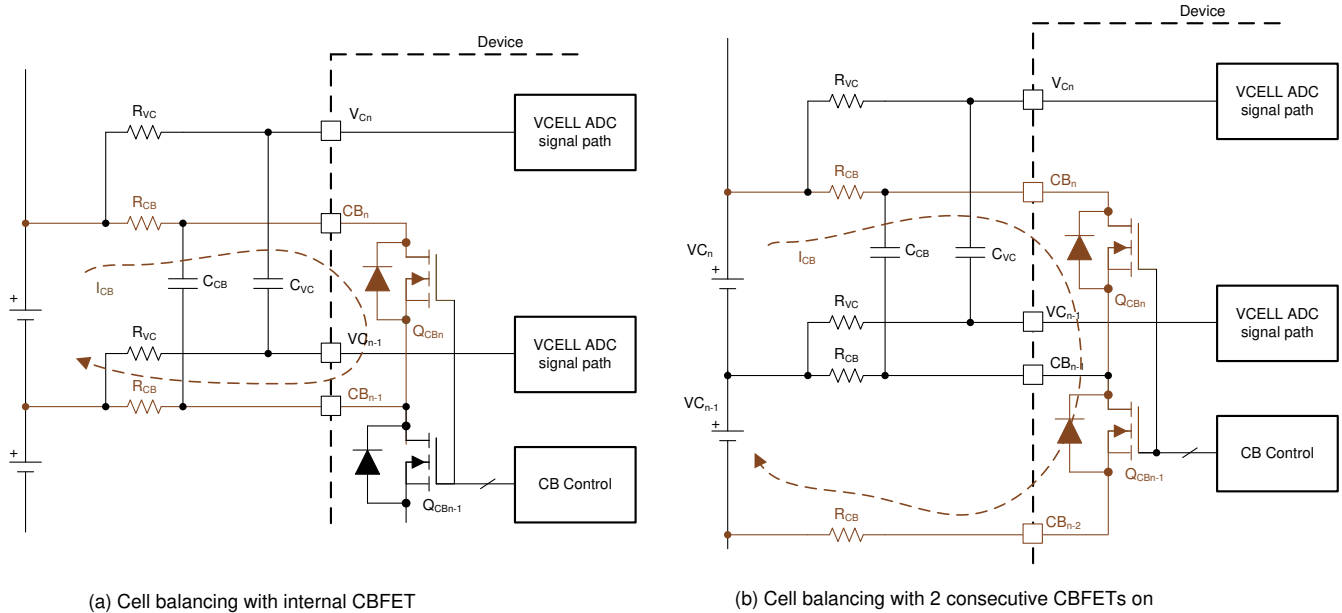

Figure 8-14. Internal Cell Balancing and the Flow of Balancing Current
- Balancing with no consecutive CBFET on (Figure 8-14 (a)): $I_{CB} = V_{Cell} / ((2 \times R_{CB}) + R_{dson_{QCB}})$
- Balancing with two consecutive CBFETs on (Figure 8-14 (b)): $I_{CB} = (\text{Sum of two } V_{CELL}) / ((2 \times R_{CB}) + R_{dson_{QCBn}} + R_{dson_{(QCBn-1)}})$
- Manual balancing control ($[AUTO_BAL] = 0$): With this method, the device will turn on the CBFETs that have non-zero balancing timer settings once $[BAL_GO] = 1$ is received. There is no odd and even channel switching during the cell balancing and the $BAL_CTRL1[DUTY2:0]$ setting does not apply under this control. Host MCU can enable two consecutive CBFETs with this method and a maximum of eight CBFETs can be enabled. When two consecutive CBFETs are enabled with both channels connected to battery cells, the balancing current is significantly different compared to no adjacent CBFET being on (Figure 8-14). The $DEV_CONF[NO_ADJ_CB]$ bit is provided to avoid inadvertent enabling of an adjacent CBFET for a system that is not intended to have an adjacent channel on for balancing. In this control method, the device is relying on the MCU to enable the proper channels. If the MCU sends $[BAL_GO] = 1$ but the CBFETs are enabled with an invalid condition, the device will not start balancing and will set $BAL_STAT[INVALID_CBCONF] = 1$. Invalid configurations are either: